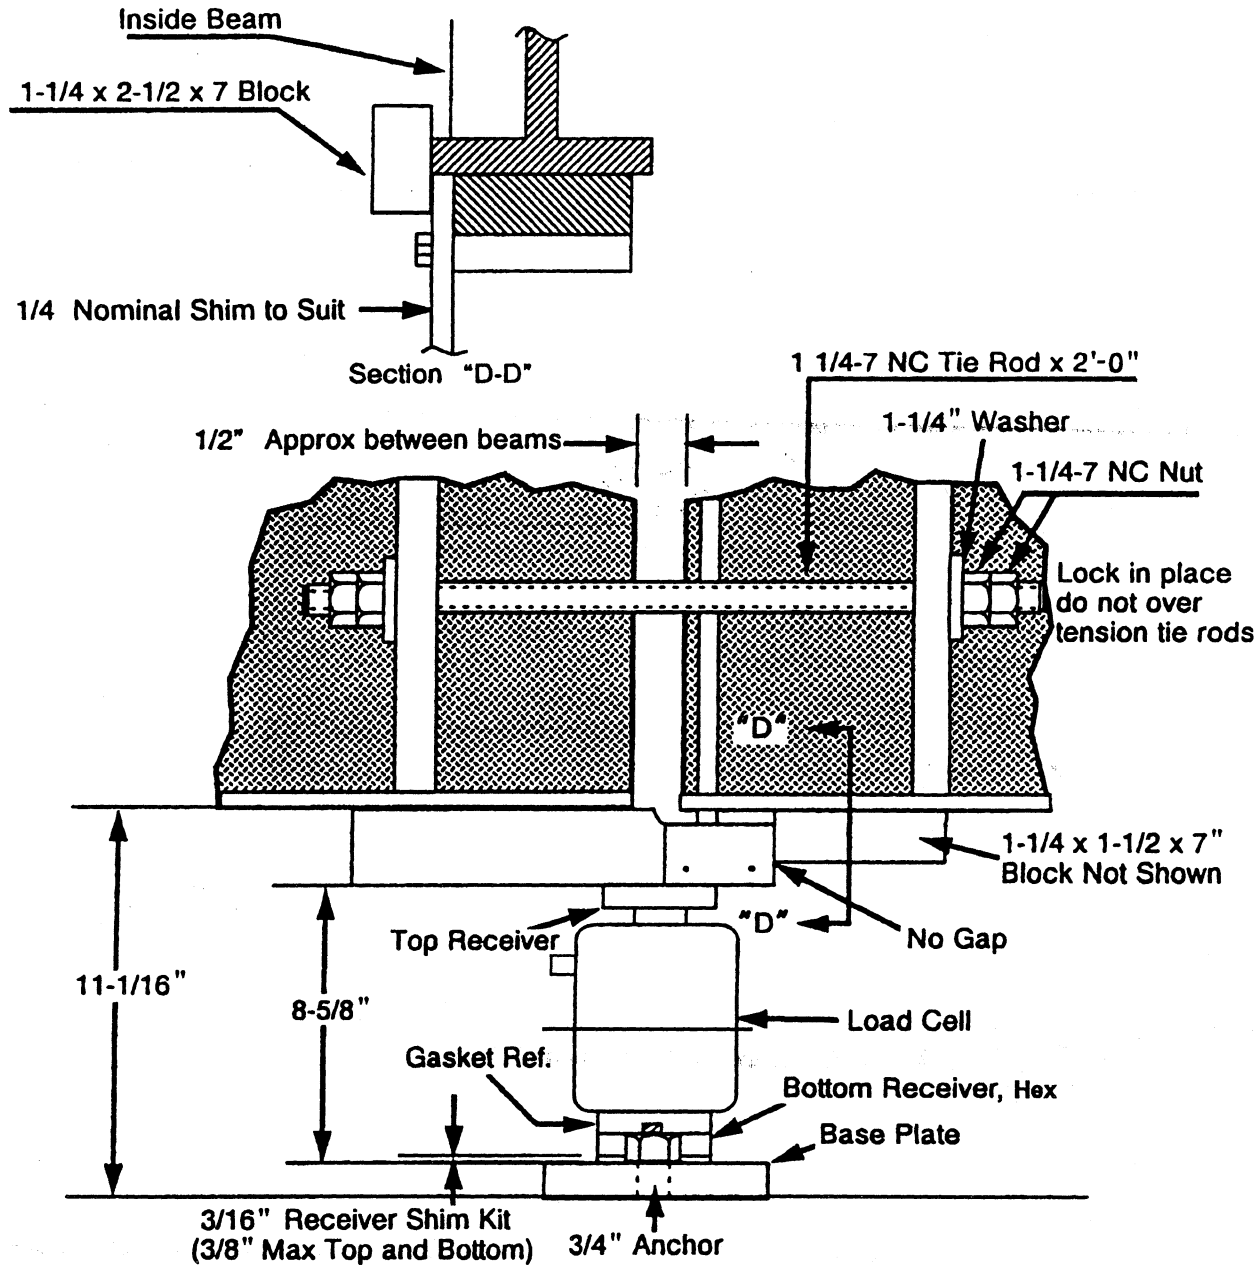

Figure 5.2 Center Cell and Tie Rod Arrangement
5.3 POWER CELL INSTALLATION (See Figure 5.2)